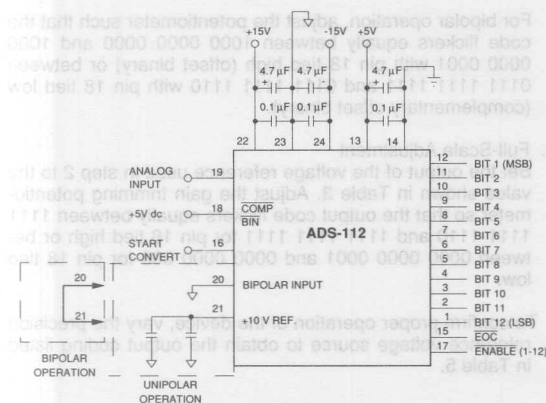
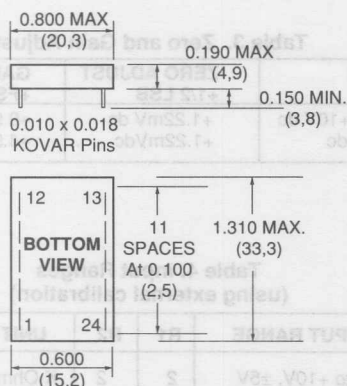

Figure 3. Typical ADS-112 Connection Diagram
Figure 4. Optional Calibration Circuit
- Applications which are unaffected by endpoint errors or remove them through software will use the typical connections shown in Figure 3. Remove system errors or adjust the small initial errors of the ADS-112 to zero using the optional external circuitry shown in Figure 4. The external adjustment circuit has no effect on the throughput rate.
- Connect the converter per Figure 3, Figure 4, and Table 2 for the appropriate full-scale range (FSR). Apply a pulse of 150 nanoseconds to the START CONVERT input (pin 16) at a rate of 250 KHz. This rate is chosen to reduce the flicker if LED's are used on the outputs for calibration purposes.